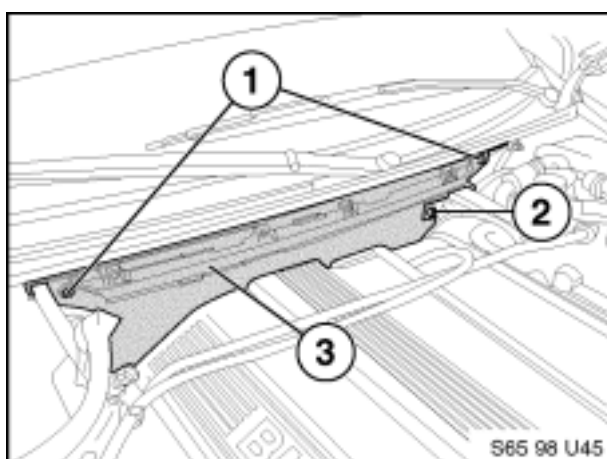

Figure 3
1.7 See Figure 3. Loosen the two 30 Torx® head captive bolts (1) on rearward cowl panel (3).
1.8 See Figure 3. Release (1/4 turn) plastic retainer (2) and remove from rearward cowl panel. It may be necessary to carefully pull forward/push rearward on the rearward cowl panel (3) to aid in the removal of this plastic retainer.